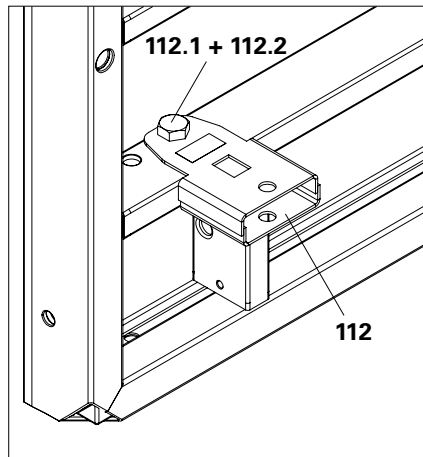
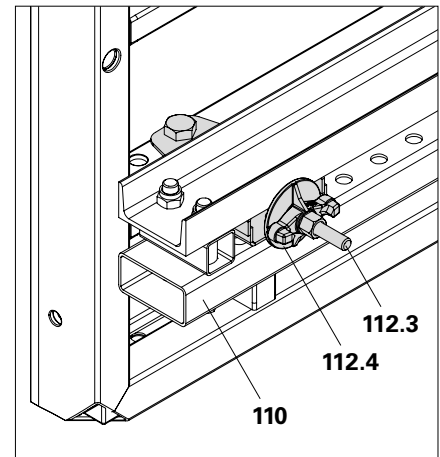

Fig. C4.03a
Fig. C4.03b
2. Fix 2x Clamp Adapter MX/TR - SRU (112) to the formwork using bolts ISO 4014 M24 x 80-8.8 (112.1) and nuts ISO 4032 M24-8 (112.2). (Fig. C4.03a)
3. Place the Formwork Waler 150 CB (110) with U-profile pointing upwards on the Clamp Adapter MX/TR-SRU (112).
4. Brace the Formwork Waler 150 CB (110) on the formwork using Tie Rod DW 15 (112.3) and Wingnut Counterplate DW 15 (112.4). (Fig. C4.03b)